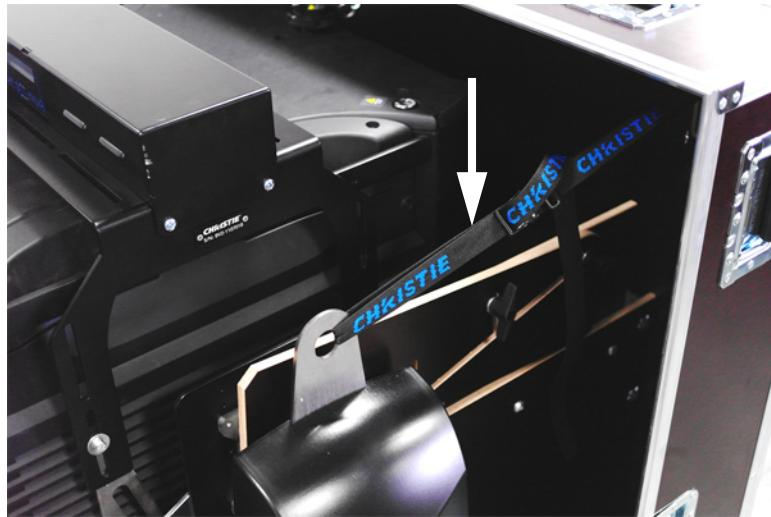

Figure 4-11 Remove Security Straps
7. Remove the straps securing the YK200 to the flight case base. (**Figure 4-11**)